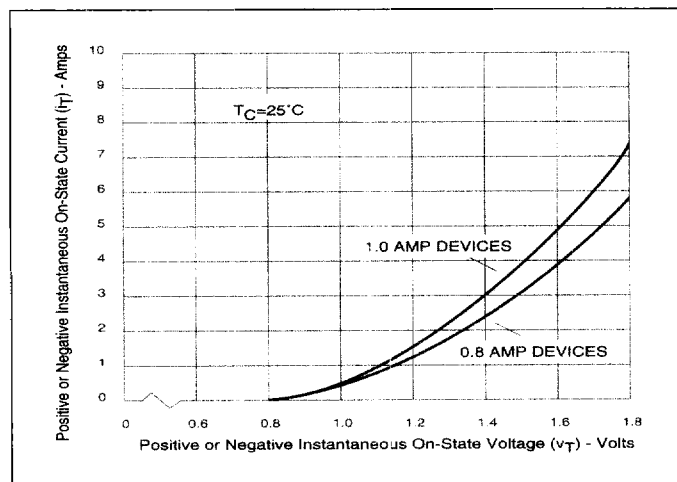

Figure 2.8 On-State Current vs On-State Voltage (Typical) (0.8 and 1.0 Amp)
- See Figures 2.8 through 2.10 for I_T vs V_T .